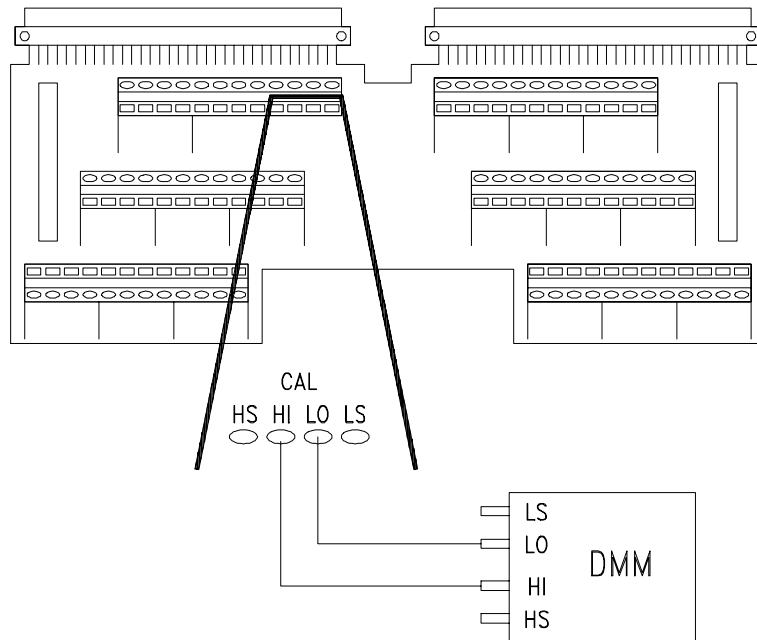

Figure D-5. Current Calibration Connections (CAL)
1. Make the connections shown in Figure D-5 or D-6.